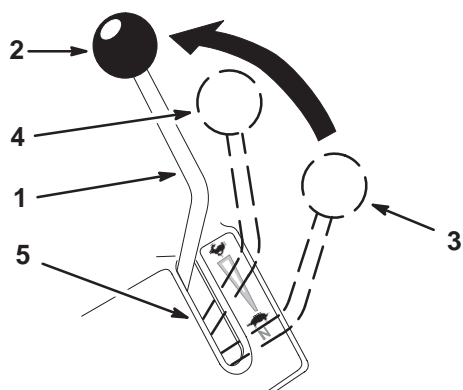

Figure 47
3. Move the speed control lever to the full forward position (Fig. 47).
9. Check the travel of the shift lever in the control panel slot. The shift lever travel should be approximately centered in the control panel slot (Fig. 47).
2. Move the speed control lever to the neutral position (Fig. 47).
4. Place the left neutral lock in the full forward position (Fig. 57) and move the speed control lever to the neutral position (Fig. 47).
1. With the machine on jack stands, place the speed control lever in the neutral position (Fig. 47).